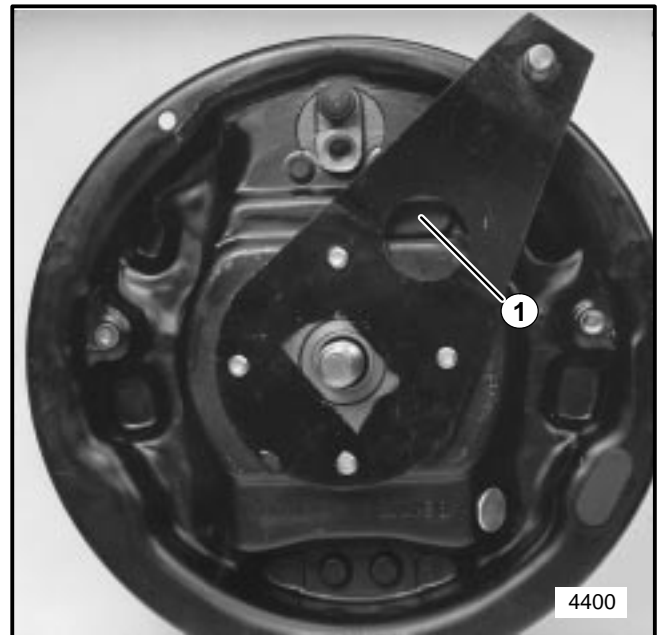

FIGURE 9
2. Remove adjusting hole cover from brake dust shield. See Figure 9.